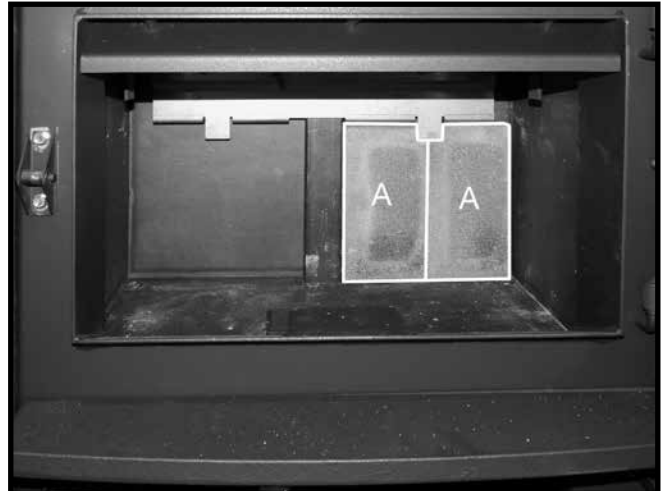

Figure 13. Installing the 2nd of the rear wall bricks
2. Slide a 2nd "A" firebrick underneath the tab on the brick rail Figure 13.